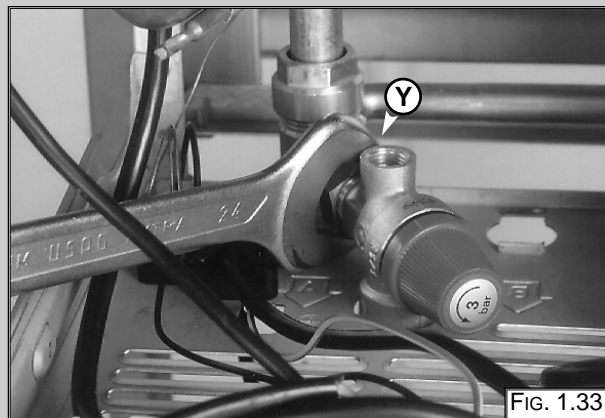

FIG. 1.33
1. Loosen nut "Y" (Fig. 1.33);